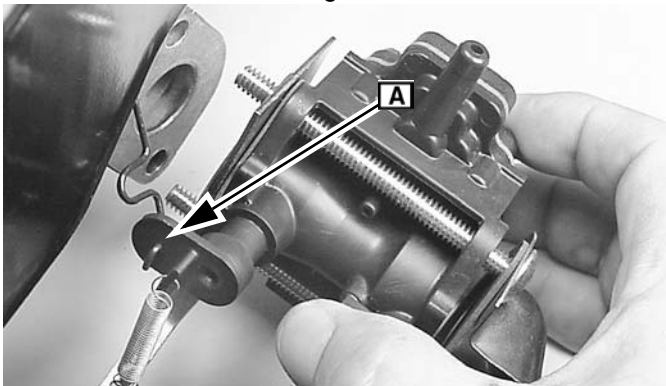

Fig. 80
4. Insert governor link through back side of throttle lever as shown (**A** Figure 80).